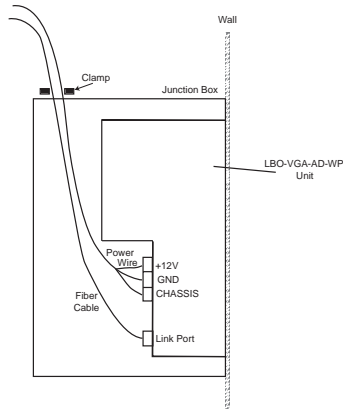
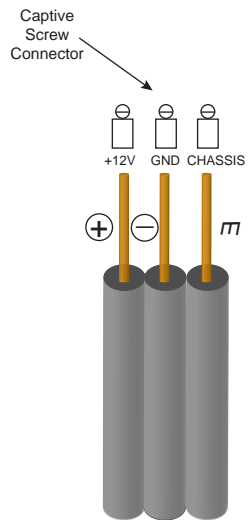

Figure 2-6
Figure 2-7
1. As shown in Figure 2-6, feed both fiber and power cables through the opening of the wall box, and secure the cables with cable clamps to provide strain relief.
3. Before connecting power wire to the LBO-SV-AD-T-WP unit, **make sure power supply is off**. Prepare the Positive (+12V) and Negative (GND or +12V return), and chassis ground (CHASSIS to earth ground) tip of the power wire as shown in Figure 2-7 to be directly plugged into the captive screw +12VDC connector of the LBO-SV-AD-T-WP units (see Figure 2-6). Make sure the polarity of the connection is correct. Insulate any exposed wire shields to prevent short circuits.